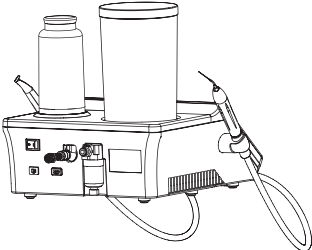

Figure 8 Air Pipe Installation
- 2.6.2 8 Plug the external air pipe connector into the air intake connector on the back of the main unit(as showed in Figure 8).